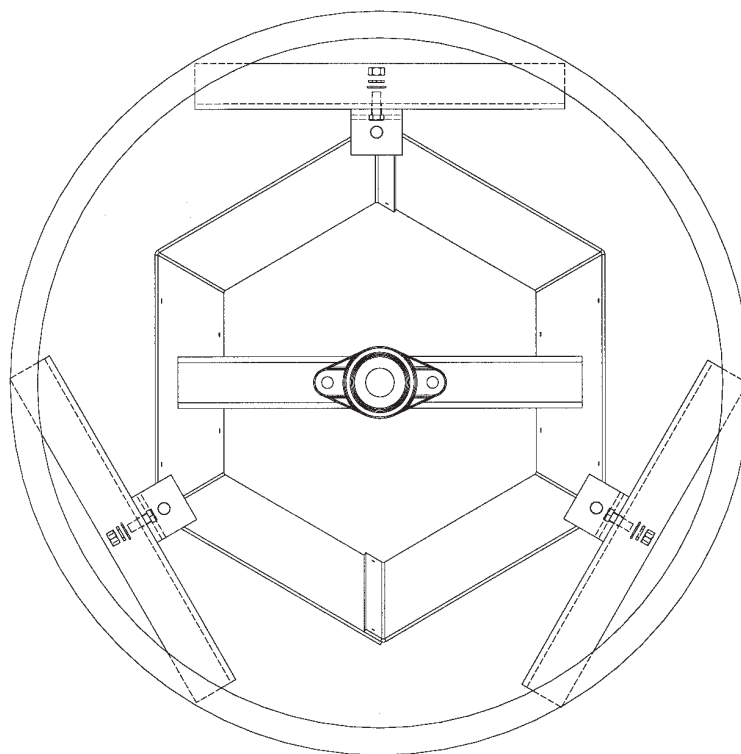

Figure 1 - Model 10,000 Installation
1. Assemble the 3072024 Center Shaft & Chute to the bottom of 3072020 Main Chute with (6) 3/8" x 1" bolts, lockwashers and nuts.
2. Attach the 3072013 Counter Weight Support Tube to the back of the main chute with (2) 3/8" x 1" bolts, lockwashers and nuts.
3. Slide the 3072009 Counter Weight Support Channel over the shaft extending out of the center chute and fasten to the bottom of the main chute with (2) 5/16" x 1" carriage bolts, flat washers, lockwashers and nuts. Attach the other end of the channel to the counter weight tube with a 3/8" x 3 1/2" bolt, lockwasher and nut.
4. Assemble (2) PT0140 1 1/4" Bearings with cast housings to the top of the channels in the spreader hopper with (4) 7/16" x 1 1/2" bolts, lockwashers and nuts. Do not tighten the mounting bolts at this time.
8. Build a frame into the top and center of the bin to support the spreader. The outside face of the 3 angle hangers on the hopper form a 21" diameter circle so the frame should be constructed in a triangle to allow the angle hangers to be bolted directly to the frame with (3) 3/8" x 1" bolts, flat washers, lockwashers and nuts. (See Figure 1 on next page.)